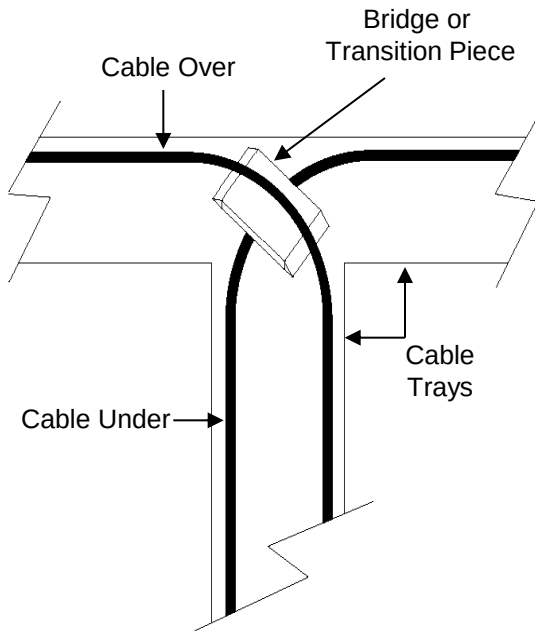

Figure 3
10.4 When TP2 tube cables must cross each other, use of a “Waterfall” type product to bridge or transition one cable up and over the other. This method will prevent the weight of the upper cable from laying on the lower cable and possibly deforming the tubes. **See Fig. 3.**